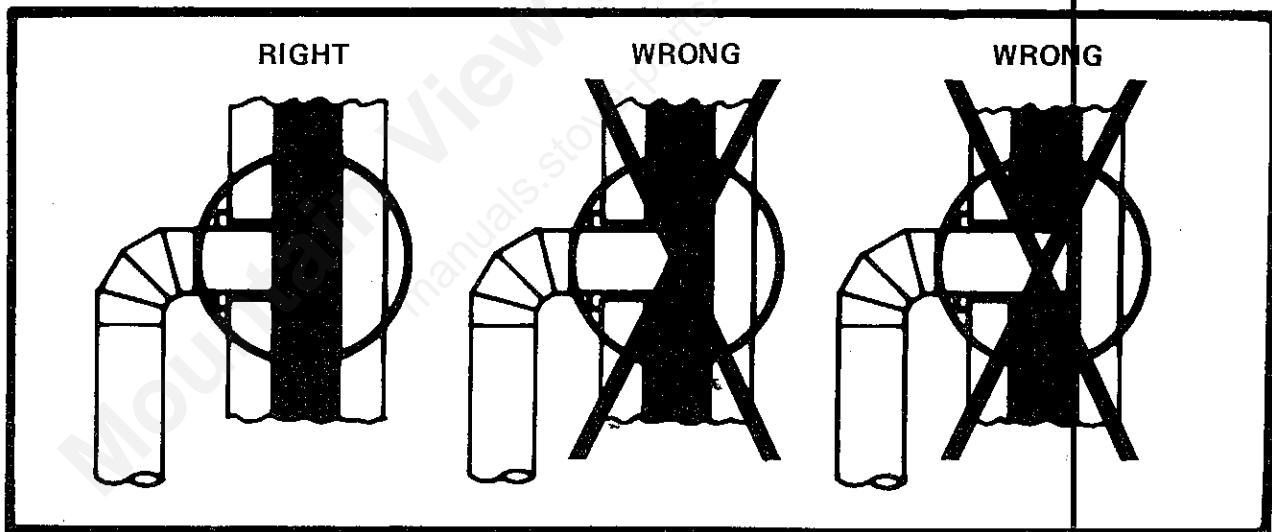

FIG. 9
4. The pipe cannot extend into the chimney flue (Fig. 9).
1. The connector pipe may be pushed into the chimney too far, stopping the draft (Fig. 9).